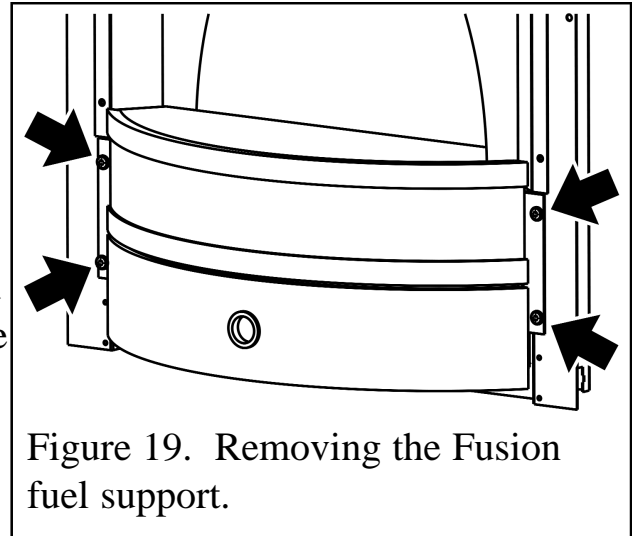

Figure 19. Removing the Fusion fuel support.
2. Remove the firefront, (On the Adage and Fusion heaters it will be necessary to remove the whole fascia), see figure 3 and the section headed “Removing the fascia”. On the Fusion model the fuel support can be removed from the heater by removing four screws (See figure 19).